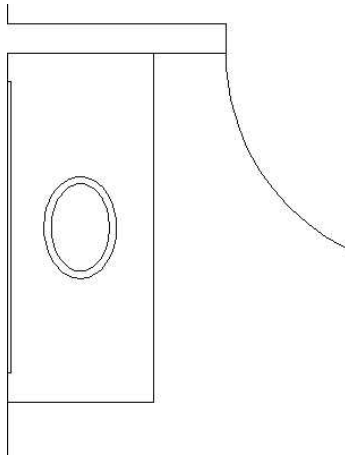

FIGURE 5.67: The completed sink fixture
- 9.** Use the Offset tool to offset the ellipse 1" (25 mm) to the outside (see Figure 5.67).